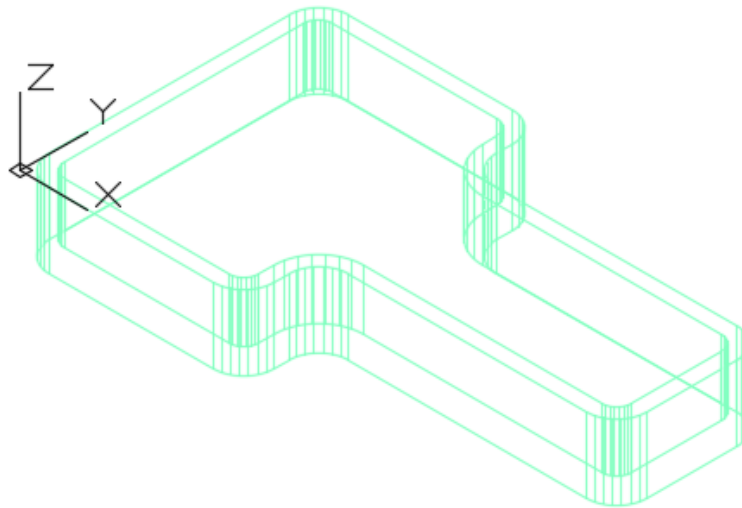

Figure Step 12
Step 12 Change the layer of the first solid from layer: Solid Off to layer: Solid 1. Turn layer: Path off. Your drawing should match the figure. (Figure Step 12)